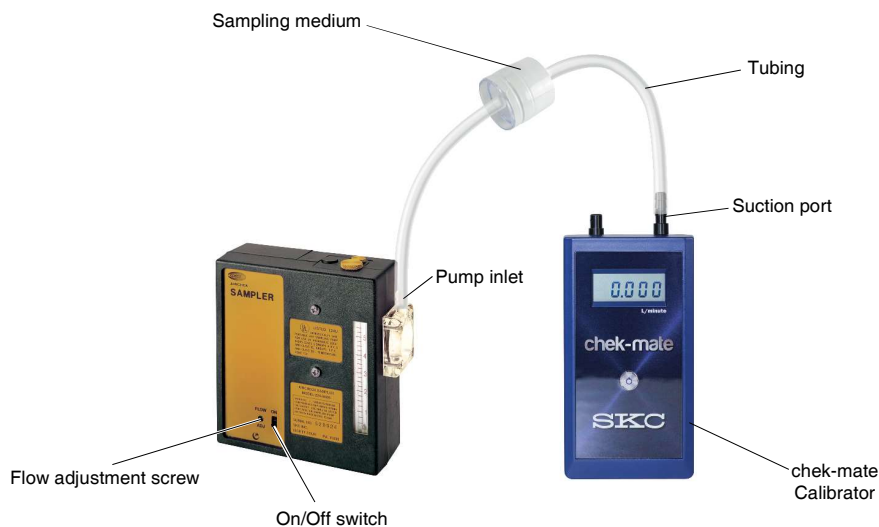

Figure 2. Calibration train with filter cassette
3. Using 1/4-inch Tygon tubing, connect the sampling medium outlet to the pump inlet (*Figure 2*).
1. Start the pump using the on/off switch (Figure 2), and adjust the flow rate by turning the flow adjustment screw (Figure 2) until the built-in rotameter reads approximately 1.5 L/min.
2. Remove the cap screw covering the regulator valve (Figure 2) and turn the exposed screw four to five turns **counterclockwise**.
3. Start sampling by turning on the pump using the on/off switch (*Figure 2*), and record the start time.